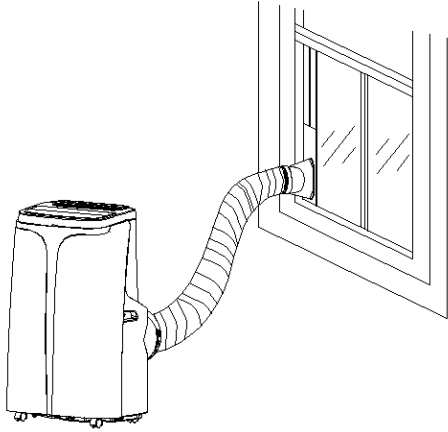

Figure5
- 2) Elongate the heat pipe and snap the flat end of the heat pipe joints into the elliptical hole of the window sealing plate assembly (as shown in Figure 5 and Figure 6) .